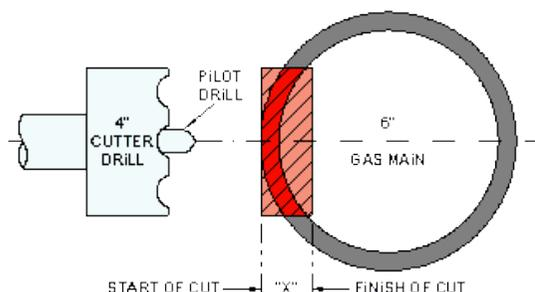

Figure 29- Measurements for Metallic Branch Drilling
2. Calculate measurements as per Figure 28 and Figure 29 of A, B, C, D & X and record in Table 16.